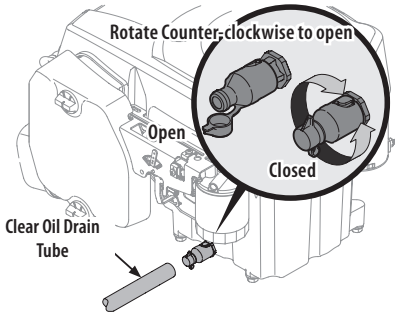

Figure 33
4. Open the protective cap on the end of the oil drain valve to expose the drain port. See Figure 33.